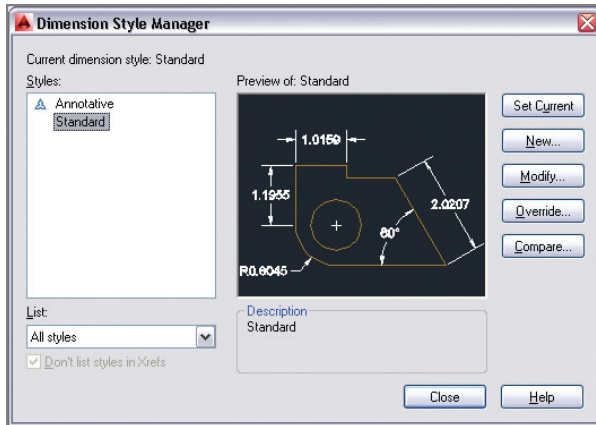

FIGURE 11.3 Dimension Style Manager
3. As you can see in the Dimension Style Manager, every drawing has Standard and Annotative dimension styles by default (see Figure 11.3). The Standard style is selected by default. Click the Modify button to alter the Standard style.